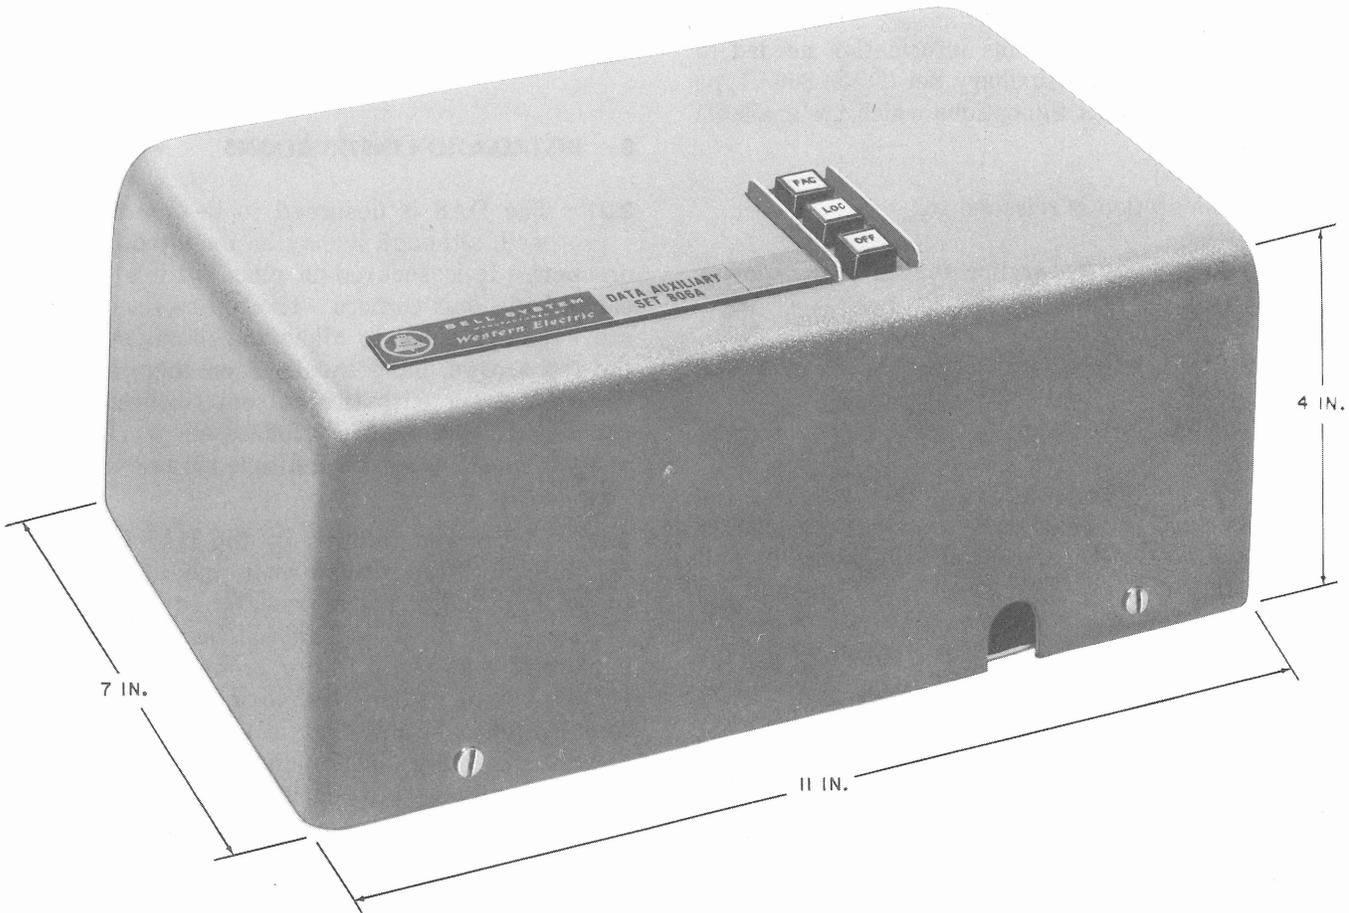

Fig. 1—DAS 806A-Type
1.01 This section contains information needed to install a Data Auxiliary Set (DAS) 806A-type (Fig. 1), and connect the options which are available with it.
2.02 The DAS cover may be removed by loosening the 4 captive screws (Fig. 1) and lifting it off.